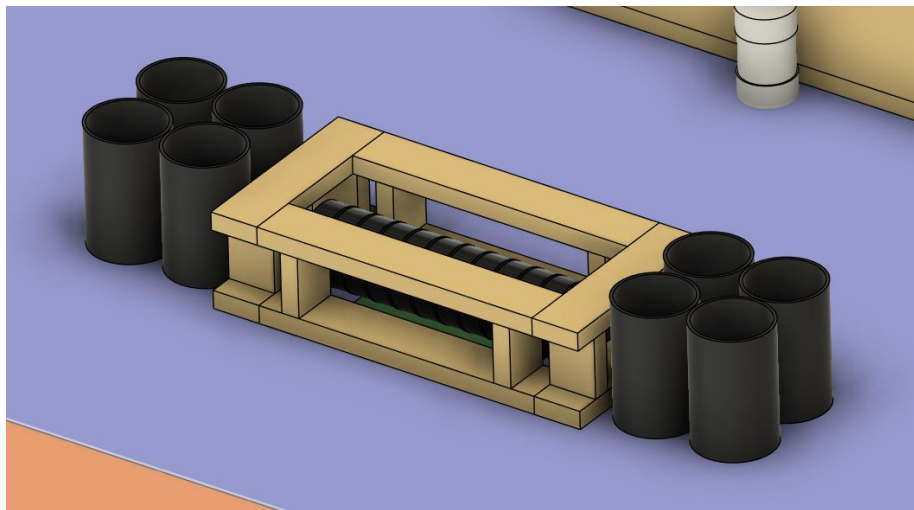

Figure 13: Bull
- 5.3.2.1. Twelve (12) bulls will be located in each corral and surrounded by the fences as per Figure 13.